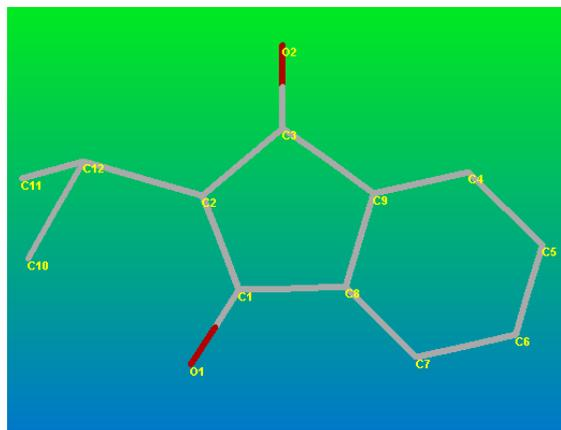

Figure 9.19 – Correctly labeled model
**NOTE:** If working on YLID test data, look at Figure 9.19 and click on the peaks to give the same order as used here. Right-click and select **Labelling**. Select Carbon and apply the labels.